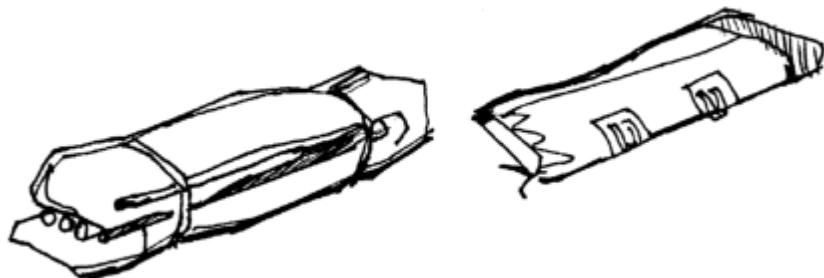

Fig. 50
4.3.22. Fold the bag with the sail so that it will cover the tubes from the top. Fold the free end of the bag inside. Tighten the package with the tapes (Fig. 50).